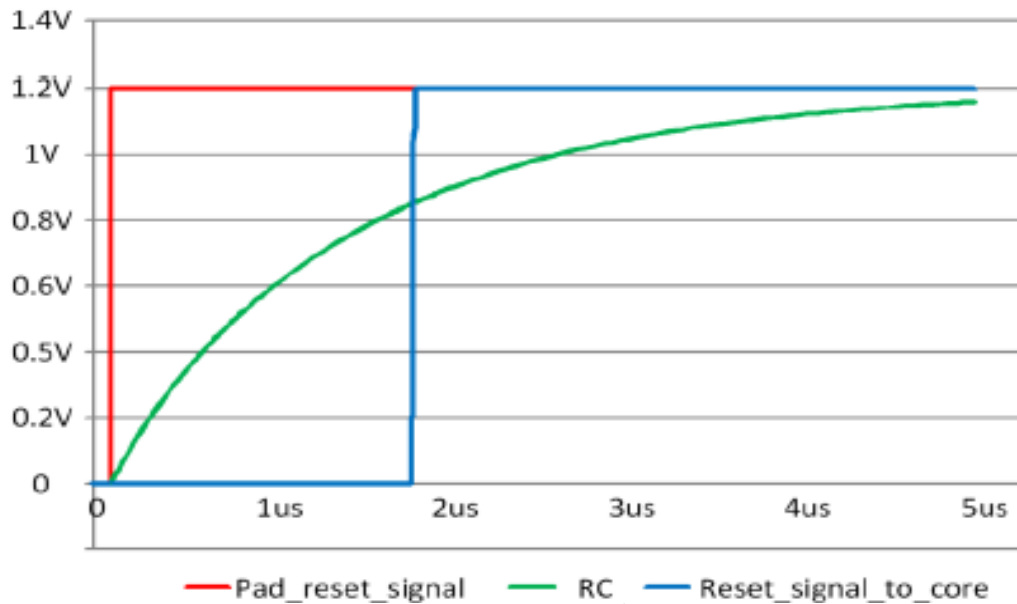

Figure 4. RST Pad Latency
The response is illustrated in the **Figure 4** which displays the voltage (V) on the vertical axis and the time (μs) on the horizontal axis:.